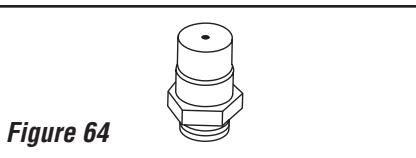

Figure 64
- Remove the orifice from the manifold and replace it with the one provided in the kit. The following Table shows the orifice sizes for natural and propane models. **Figure 64, page 42** illustrates the orifice.